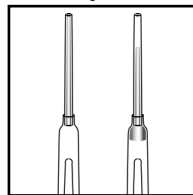

Figure 3
6. Pull the VACUette into a vertical position. A small portion of the collected sample should fall into the sleeve of the VACUette tip (fig 3).